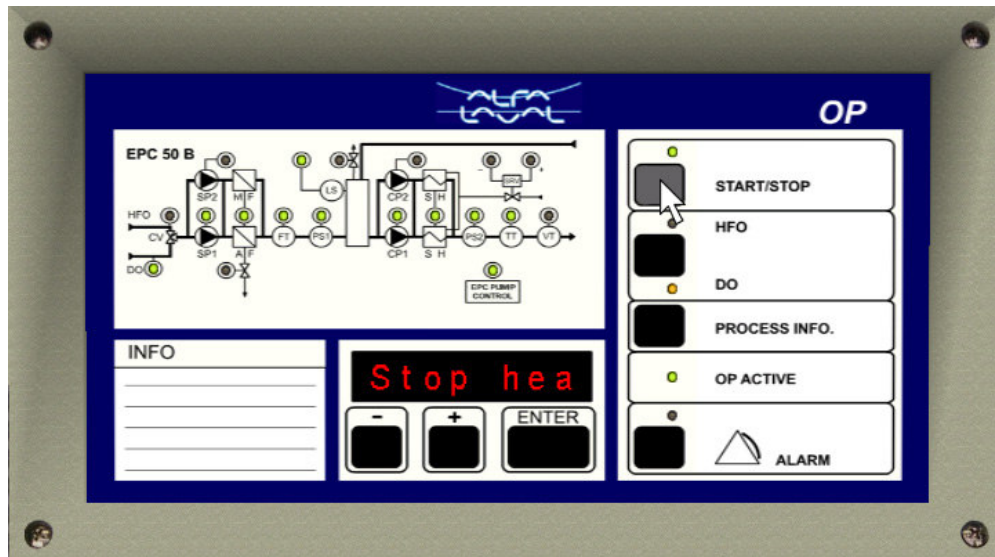

Fig. 33. Stopping the heater
1. Press “stop” on the EPC (fig. 33).